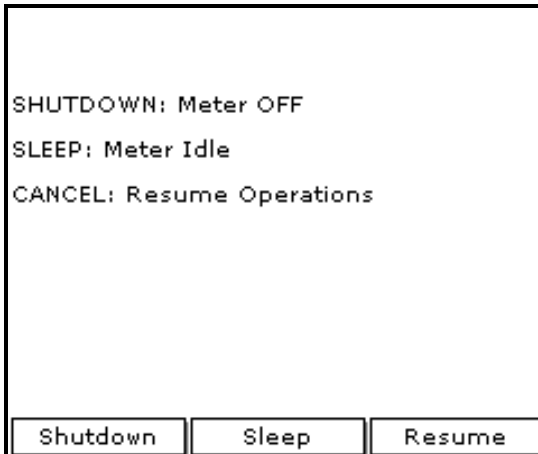

Figure 2: Shutdown Menu
1. To turn the PM880 AC off, press the red key for 3 seconds. The screen now appears similar to Figure 2.